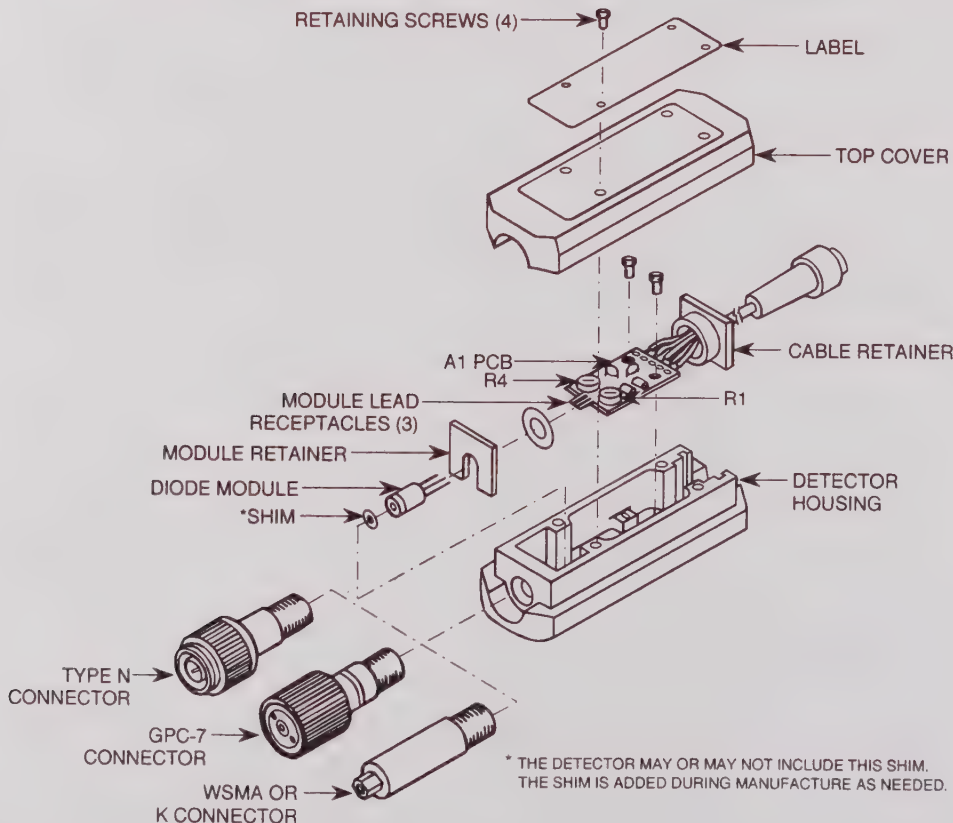

Figure A-4. Series 560-7XXX RF Detectors, Exploded View
- Step 2** Unfasten the two retaining screws that hold down the RF detector PCB subassembly (Figure A-4).
Orient detector housing normally (Figure A-4). Insert replacement diode module into rear of connector body so that center lead is on top.
- Step 15** Orient PCB subassembly normally as shown in Figure A-4 and insert into detector housing so that leads from replacement diode module mate with connectors on PCB subassembly.